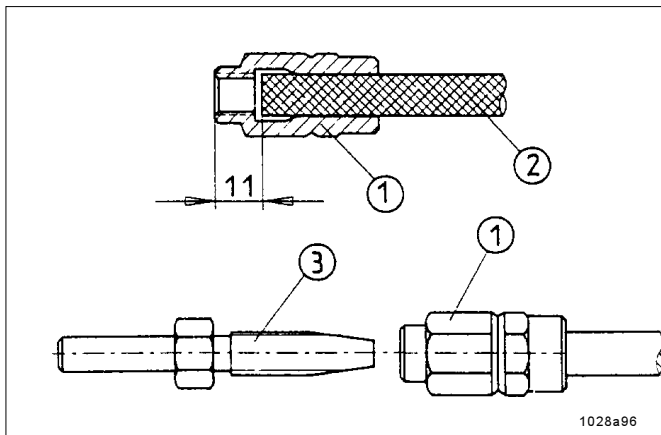

Fig. 22 - Preassembly of the threaded sleeves and hose studs on the high-pressure plastic hose
- Screw the threaded sleeve, item 1 Fig. 22, counterclockwise onto the high-pressure plastic hose 2 until the illustrated dimension of 11 mm is reached. Then screw the hose stud 3 into the threaded sleeve 1.